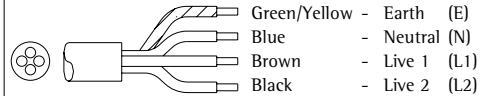

fig. 6
- (Fig. 6) For 380V-415V 2 live/neutral (4 core electric cable).